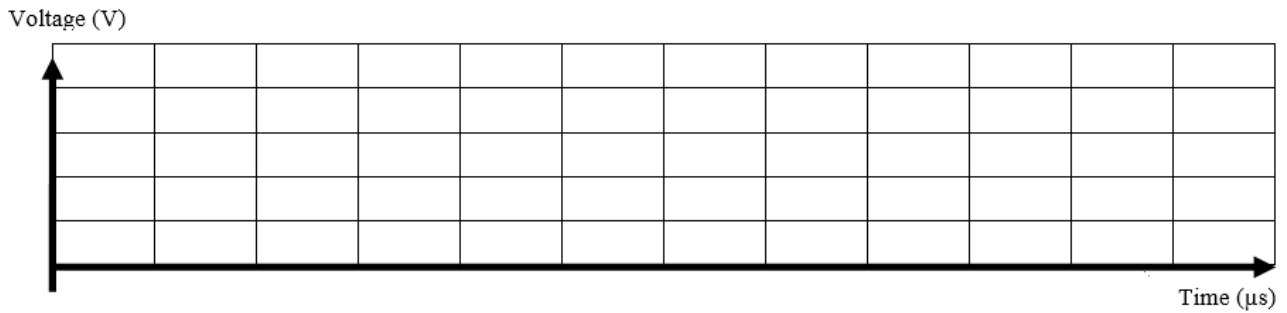

Fig. 15: Acquired Waveform for capitalized letter 'U'. Serial.begin(19200, **SERIAL\_8E1**).
- Plot the waveform for the following configuration in Fig 15, 16 and 17. Identify the START bit, STOP bit(s) and the data payload. Also include the timing information.